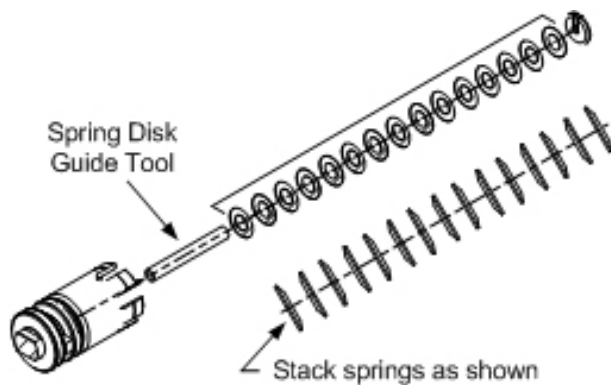

Fig. 6.3. Stacking The Belleville Springs
13. Stack the **15 Belleville springs** onto the 1/4-inch thin wall plastic tubing, as shown in Figure 6.3.